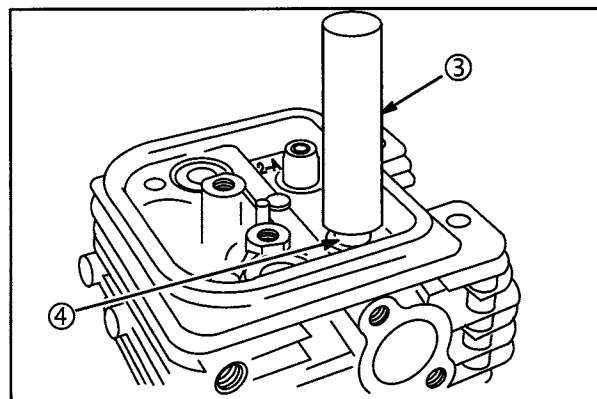

Fig. 12
2. Press in new valve guide (4) using Bushing Driver (3) #19416, Fig. 12. Press in until tool bottoms on valve guide bushing boss.